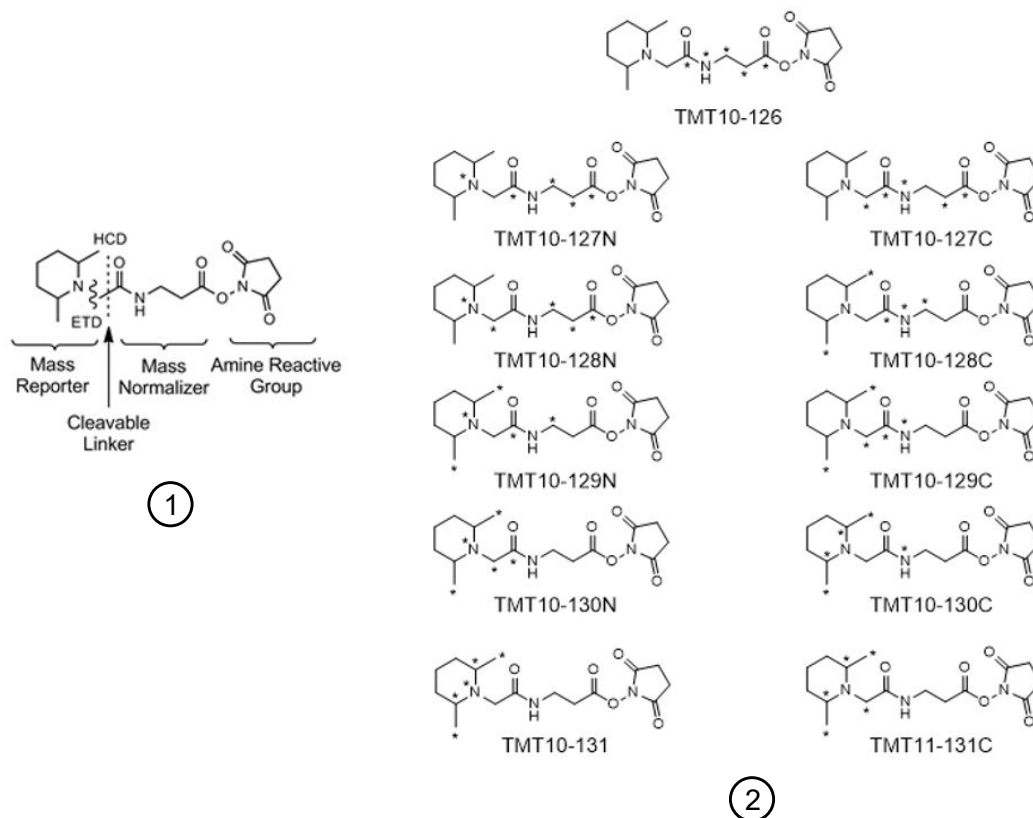

Figure 1 Chemical structures of the TMT™ labeling reagents
The Thermo Scientific™ AccelerOme™ TMT11plex™ MS Sample Preparation and Labeling Kits enable multiplex relative quantitation by mass spectrometry (MS). The kit contains a Sample Prep Module and a TMT11plex™ Labeling Reagent Module (shipped separately). Like other isobaric mass-tagging reagents, each reagent within a set has the same nominal mass (isobaric) and chemical structure composed of an amine-reactive NHS-ester group, a spacer arm, and a mass reporter (see Figure 1). The reagent set can be used to label up to 11 different peptide samples prepared from cells or tissues. For each sample, a unique reporter mass (i.e., 126–131 Da) in the low mass region of the MS/MS spectrum is used to measure the relative protein expression levels during peptide fragmentation.